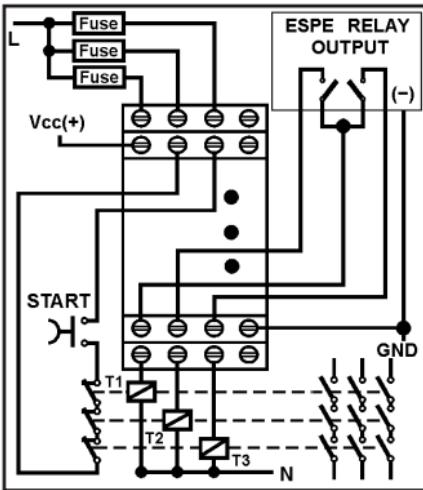

Fig. 8: ESPE: 2 uscite a relè a 2 fili /
- *ESPE with two relay two-wires outputs*: connect one wire of each output channel to the S21 terminal and the other outputs to the S11 and S22 terminal, leaving S12 not connected (fig. 8, max. Safety cat. 4).